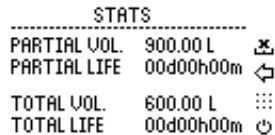

Figure 11 Statistics
2. Statistics (Figure 11): you can view: